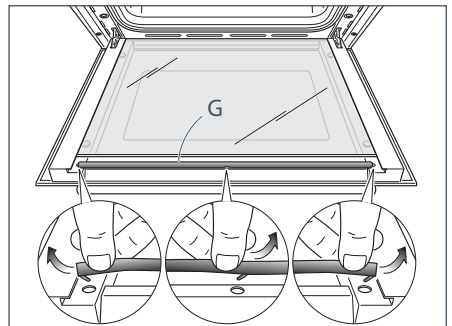

Fig.44d
- Remove the seal "G" by unhooking the three fixing hooks (Fig. 44d).